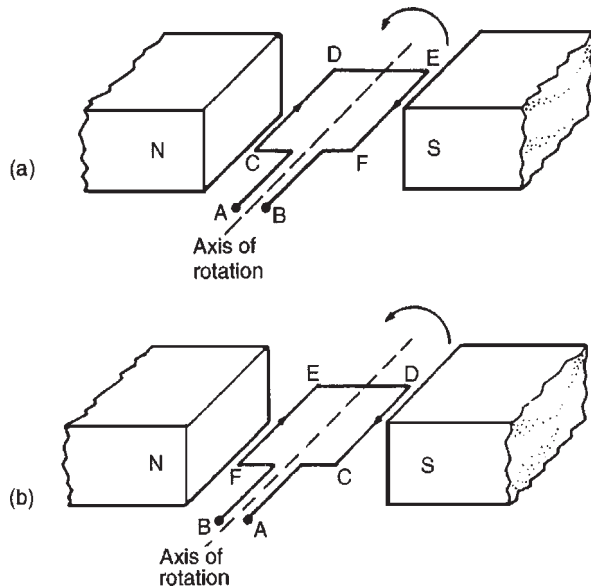

Figure 22.1
permanent magnets is shown in Fig. 22.1. A voltage is applied at points A and B in Fig. 22.1(a).
A force, F , acts on the loop due to the interaction of the magnetic field of the permanent magnets and the magnetic field created by the current flowing in the loop. This force is proportional to the flux density, B , the current flowing, I , and the effective length of the conductor, l , i.e. $F = BIl$. The force is made up of two parts, one acting vertically downwards due to the current flowing from C to D and the other acting vertically upwards due to the current flowing from E to F (from Fleming's left-hand rule). If the loop is free to rotate, then when it has rotated through 180° , the conductors are as shown in Fig. 22.1(b). For rotation to continue in the same direction, it is necessary for the current flow to be as shown in Fig. 22.1(b), i.e. from D to C and from F to E. This apparent reversal in the direction of current flow is achieved by a process called **commutation**.
- (iii) **field windings**, i.e. many turns of a conductor wound round the pole core; current passing through this conductor creates an electromagnet, (rather than the permanent magnets shown in Figs 22.1 and 22.2),